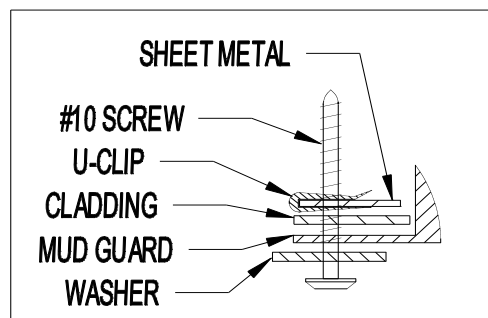

Figure 2
3. Attach mud guard to front fender with #10 screw and washer at location B, thru mud guard, thru fender cladding, and into U-clip. Check fit and parallel and adjust accordingly before tightening (Figure 2).